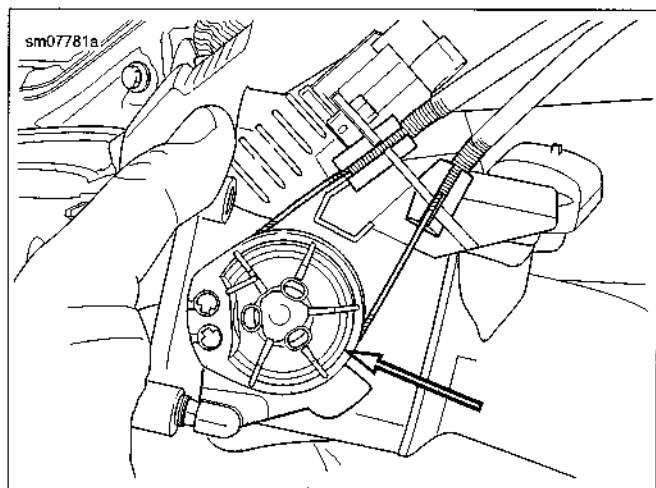

Figure 2-117. Induction Module Throttle Cam
16. See Figure 2-117. Disconnect cables from throttle cam: